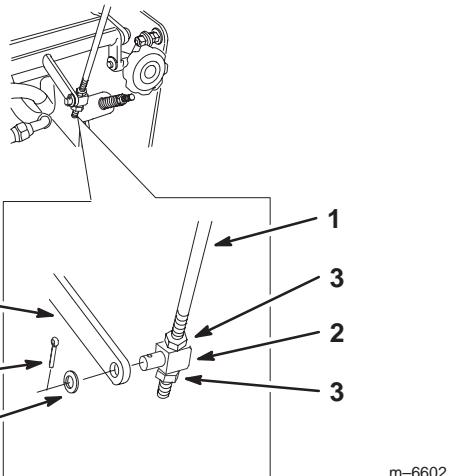

Figure 6
1. Install the swivel into the speed control crank and secure it with a washer and cotter pin (Fig. 6).